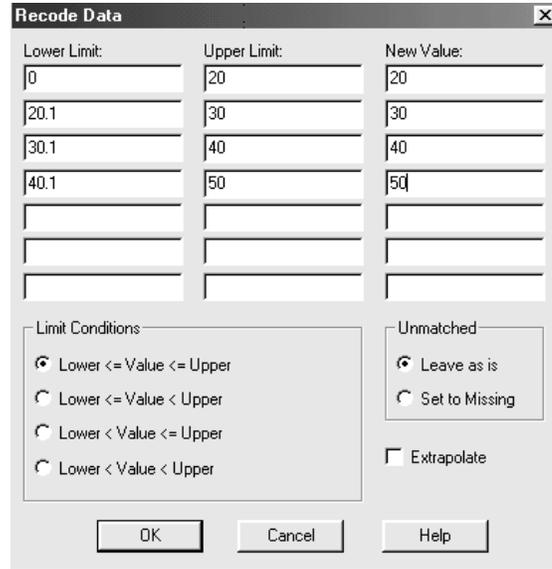

Figure 4-9. Completed Recode Data Dialog Box
4. Enter the following data into the Lower Limit, Upper Limit, and New Value text boxes. Figure 4-9 shows the completed dialog box.